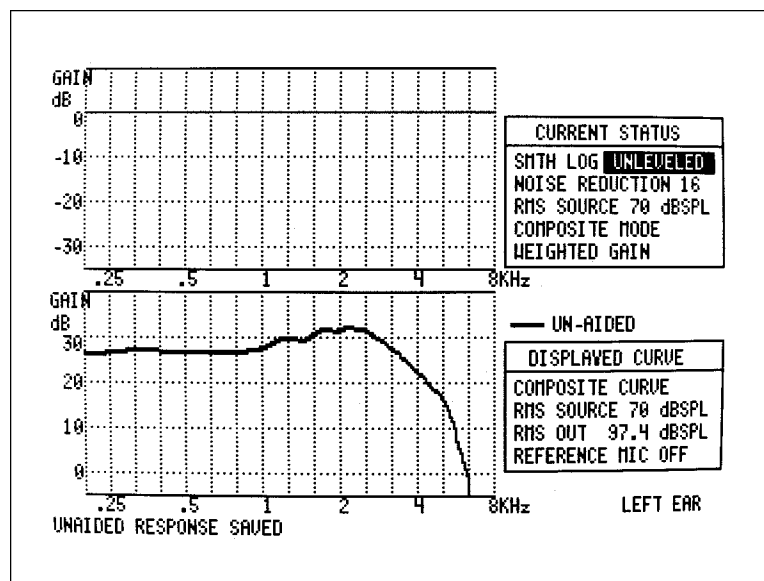

Figure 8.5.1B—RECD, coupler measurement
11. Press [START/STOP] once to turn the signal on, and again to freeze the measurement. This is the 2-cc coupler response of the insert earphone (Figure 8.5.1B).